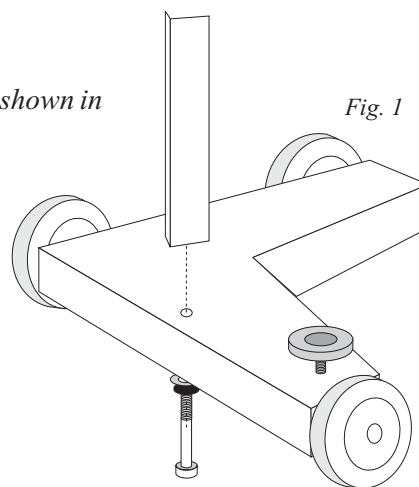

Fig. 1
*Bolt the mast to the base aligning the mast as shown in fig. 1.*